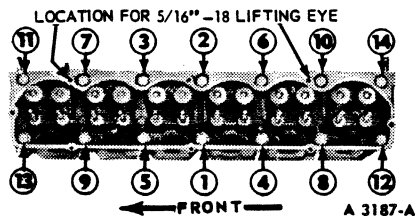

FIG. 32 Cylinder Head Bolts Torque Sequence
12. Remove the cylinder head bolts. Install the cylinder head lifting eyes in the locations shown in Figure 32. Position a floor crane and attach the hoist and lifting sling to the lifting eyes. Lift the cylinder head and intake and exhaust manifolds assembly off the engine. **Do not pry between the head and block as the gasket surfaces may become damaged.**
4. Install lifting eyes on the cylinder head in the location shown in Figure 32 and use a floor crane and lifting sling to lift the cylinder head over the cylinder block. Lower it carefully until it is properly positioned on the block and dowel pins. Remove the hoist and lifting eyes.
6. The cylinder head bolts are tightened in three progressive steps. Follow the sequence shown in Figure 32. Torque the bolts to specifications.